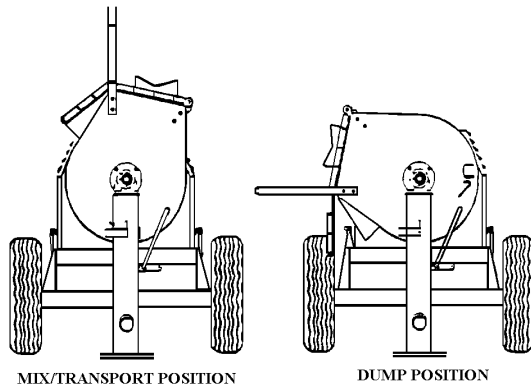

FIG. 3
Lift the drum latch to rotate the drum into the dump position. The latch should automatically engage when the drum is returned to the mix/transport position. (SEE FIGURE 3)
1. Place the drum in the mixing position and verify that the drum latch is engaged. (See Figure 3)